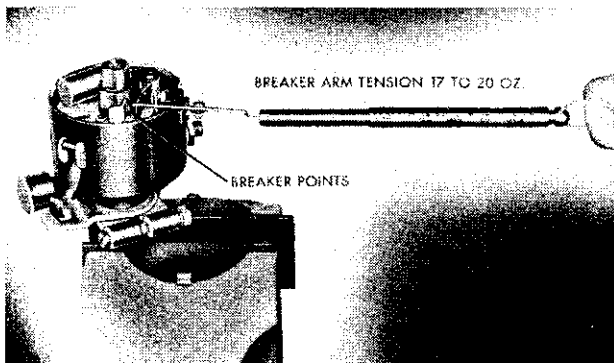

FIG. 100
**CHAMPION AND COMMANDER** Whenever any work is performed on the distributor, the breaker arm tension should be checked. A pull of from 17 to 20 ounces (0,4819 to 0,5670 kgs.) should be required to open the points. Make adjustments by shifting the breaker point arm spring at its point of attachment to the distributor plate bracket (see Fig. 100).